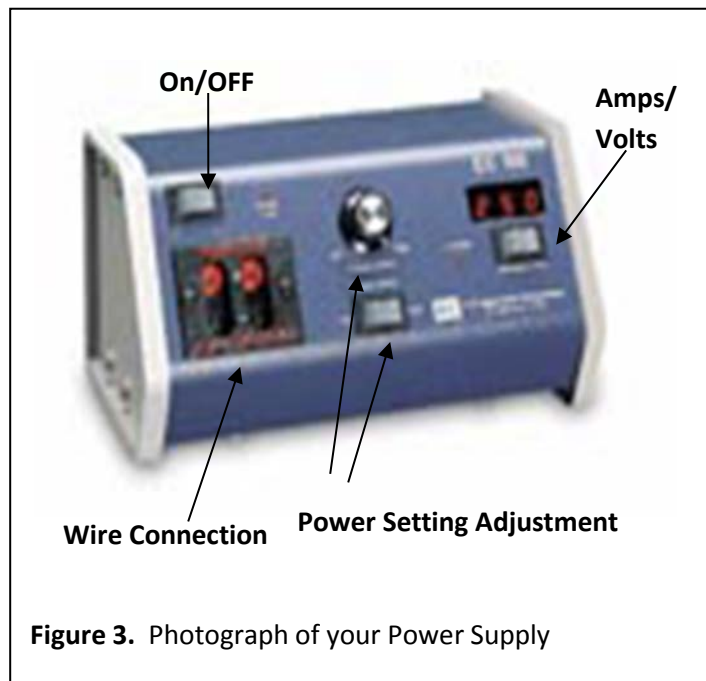

Figure 3. Photograph of your Power Supply
7. Plug the wires from the electrophoresis unit into your power supply, matching red to red and black to black (See Figure 3). Ask your TA for help, if you need it.